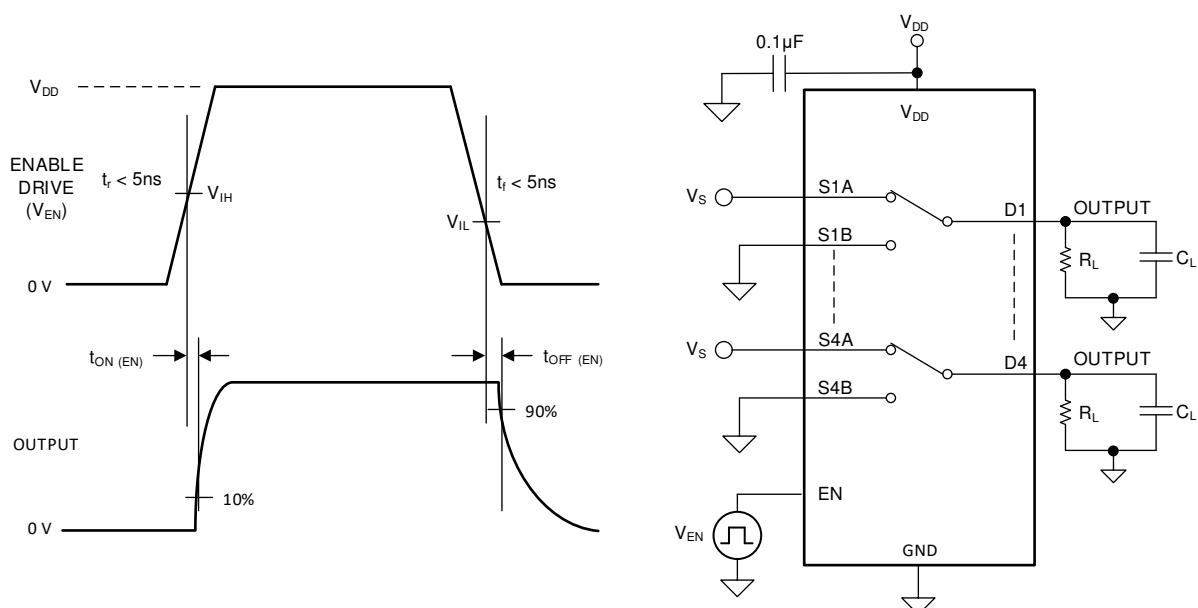

Figure 6-6. $t_{\text{ON (EN)}}$ and $t_{\text{OFF (EN)}}$ Time Measurement Setup
6.6 $t_{\text{ON (EN)}}$ and $t_{\text{OFF (EN)}}$ Time
The $t_{\text{ON (EN)}}$ time is defined as the time taken by the output of the device to rise to 90% after the enable has fallen past the logic threshold. The 90% measurement is used to provide the timing of the device being enabled in the system. Figure 6-6 shows the setup used to measure the enable time, denoted by the symbol $t_{\text{ON (EN)}}$.